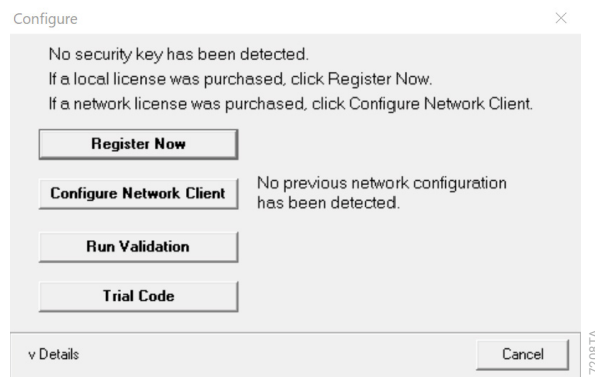

Figure 41. 'Configure' window.
3. Select **Configure Network Client** in the 'Configure' window (Figure 41).